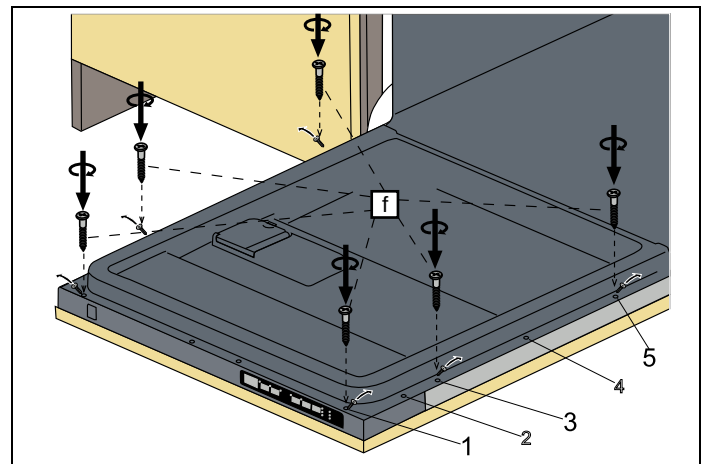

Fig. 27
6) The screws located on the wooden door are fitted to the dishwasher at the discharges located on the door outer sheet and are assembled as shown in Fig. 27 .
7) As shown in Fig. 27 , Screws $\varnothing 5/32'' \times 53/32''$ ($\varnothing 4$ mm x 42.5mm) are installed in positions I, III and V.